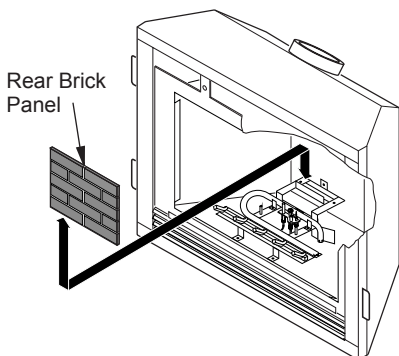

Figure 39 - Installing Rear Brick Panel
5. Install rear brick panel first. Rest bottom edge of panel on back edge of grate (see Figure 39).